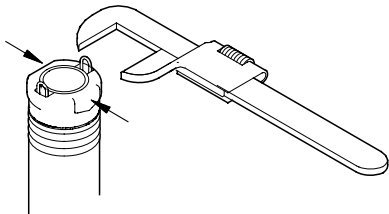

Fig. 8 Gripping the pump
- The pump should only be gripped by the two flats at the top of the pump, see fig. 8.